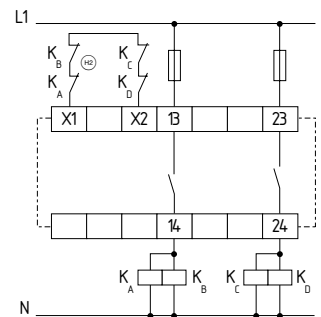

Fig. 49
**Dual-channel control with feedback circuit (Fig. 49)**